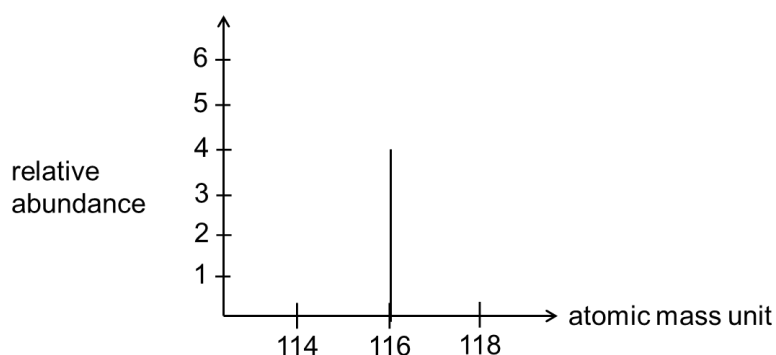

Fig. 5.2
- (iv) Hence, calculate the relative abundance of BrCl with atomic mass unit of 114 and 118, and complete Fig 5.2. [2]